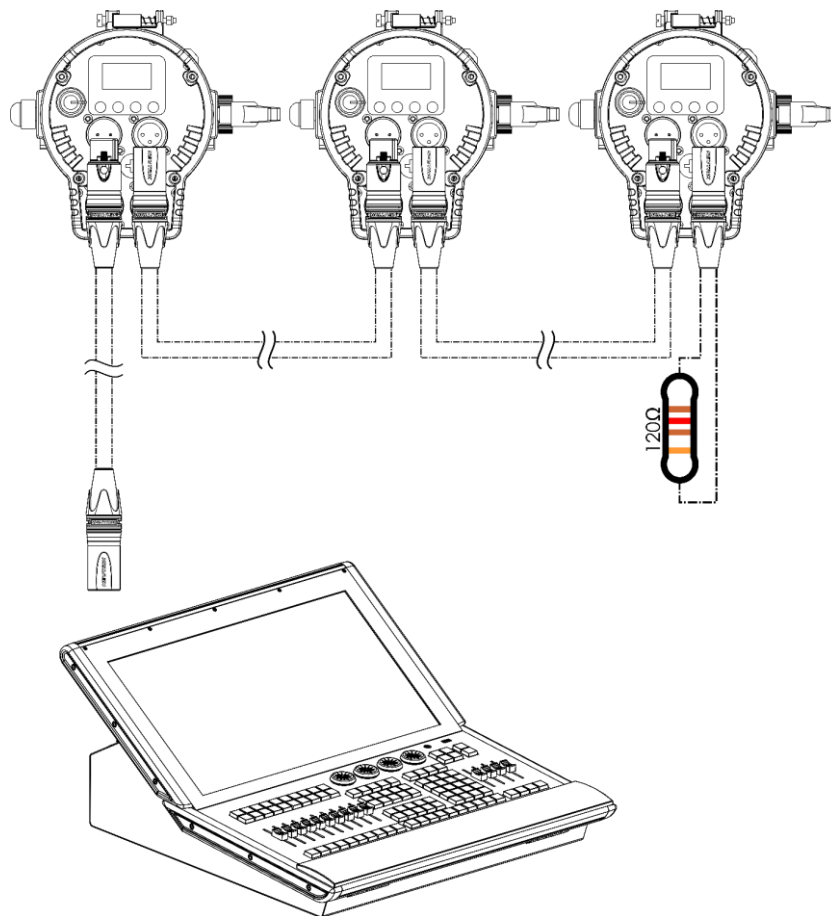

Fig. 17
- 03) Repeat step 2 to connect all devices in a daisy-chain as shown in Fig. 17.